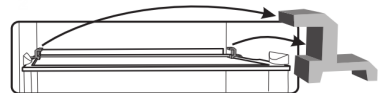

fig. 5
- Remove red elements from the shelves (fig. 5) used only for the transport purposes.